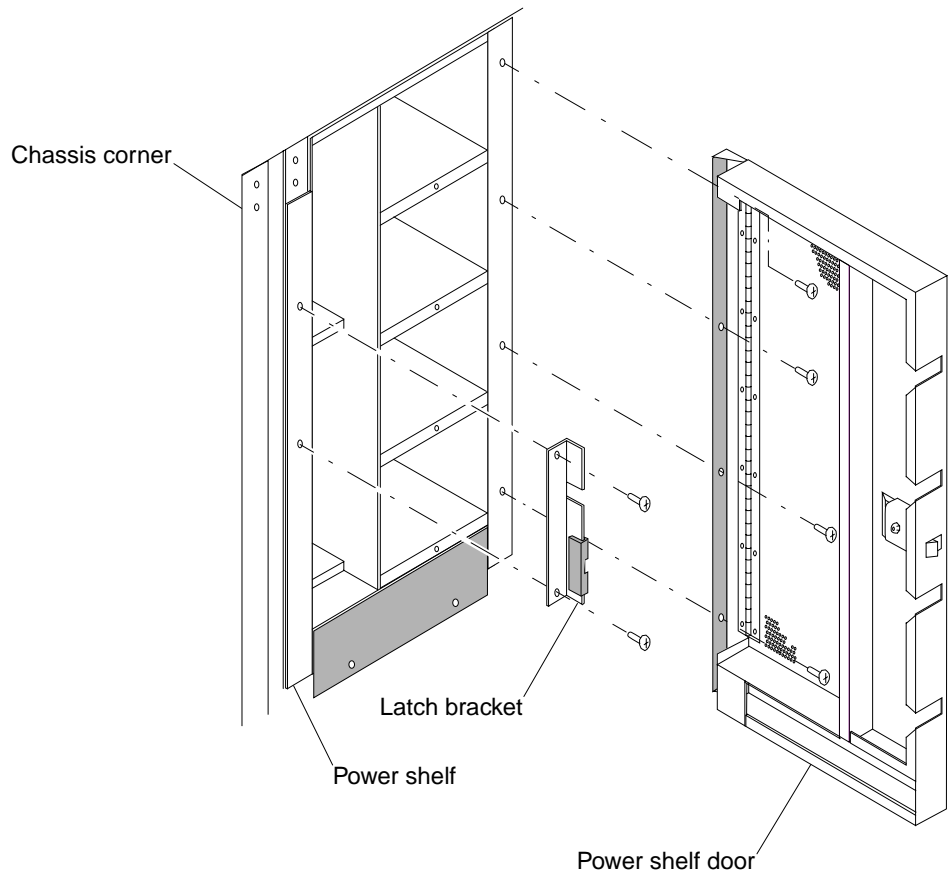

FIGURE 14 Install Power Shelf Door—Typical
(FIGURE 14).
3. Install the power shelf door with M4 screws so that it is a mirror image of the door next to it (FIGURE 14).